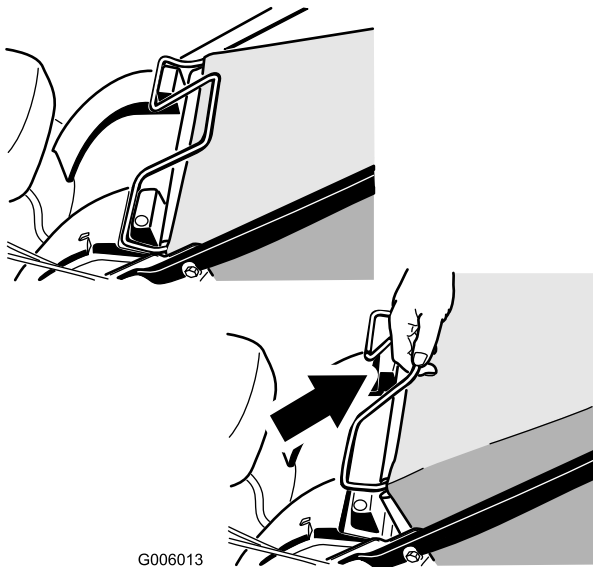

Figure 27
1. Lift the grass bag handle out from the grooves at the top of the mower and remove the bag from the mower (Figure 27).